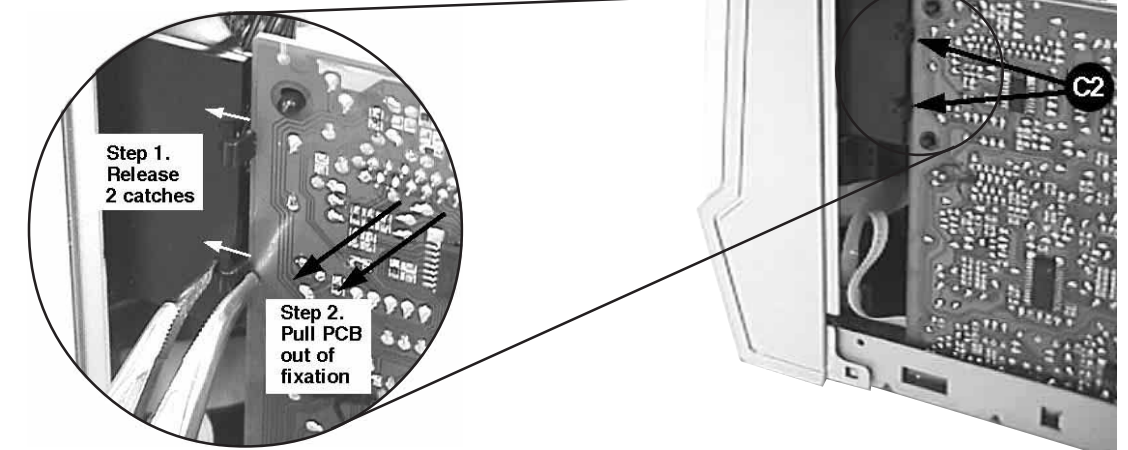

Figure 5
- 2) Release the fixation of the Combi Board to Bracket Combi (pos 252) by releasing 2 catches C2 and pulling the board outwards as shown in figure 5.